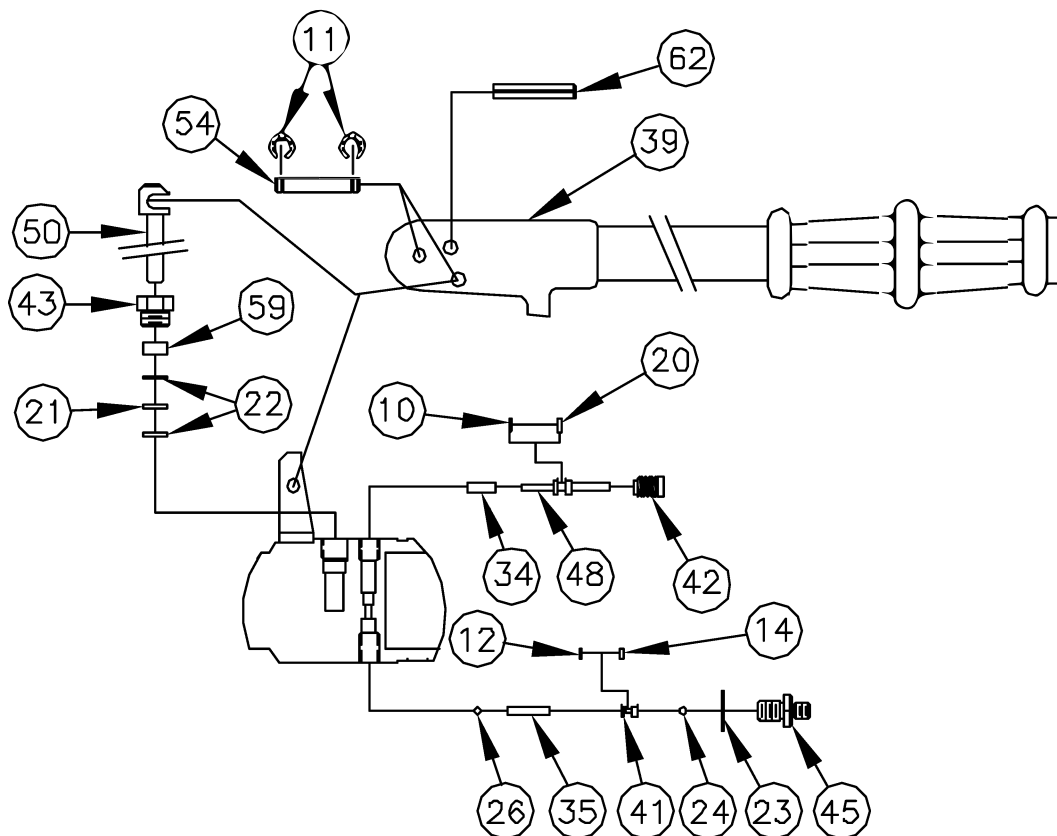

FIGURE 16
REMOVAL OF RELIEF ROD (SEE FIGURES 16 & 17):
3. **IF CLEARANCE IS UNDER .050"**, remove one number 11 retaining ring and pull handle pins 54. Grasp handle grip and slightly lift and pull the handle rearward (see Figure 16).
2. Loosen relief valve nut 42 until almost out but **DO NOT REMOVE!** (see Figure 16).